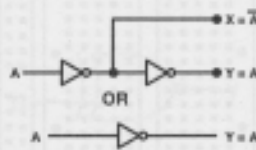

Fig. 26, Logic Symbol
7. Repeat Steps 4 and 5 for the next two NOR Gates and for Pins 8-9, 10-11, and 12-13 (see Figure 26).